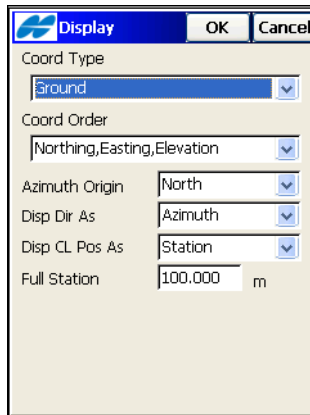

Figure 6-3. Display
- **Settings** – opens the *Display* screen (Figure 6-3 on page 6-4).
On the *Display* screen (Figure 6-3) select the display parameters to customize the software interface, then press **OK** to save the settings and return to the *Points* screen.